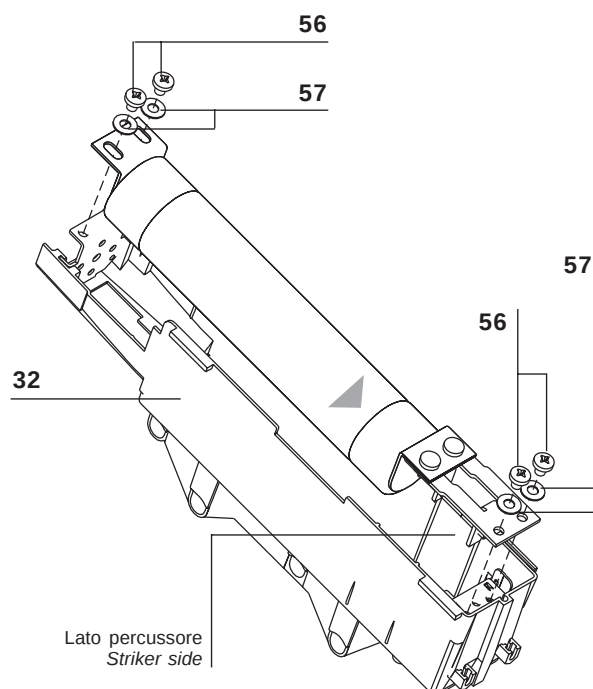

Fig. 56b
The fuse-holder (32) (fig. 56b) is designed to mount fuses with a centre fixing distance of 553 mm. For smaller types the following three adapters are provided:
- adapter (51) for fuses with a centre fixing distance of 235 mm;
- adapter (52) for fuses with a centre fixing distance of 305 mm;
- adapter (53) for fuses with a centre fixing distance of 454 mm.
**Posizionare le viti senza testa (54) solo come da disegno.**
b) Montaggio dei fusibili (fig. 56b)
**Only position the grub screws (54) as shown in the drawing.**
b) Mounting the fuses (fig. 56b)